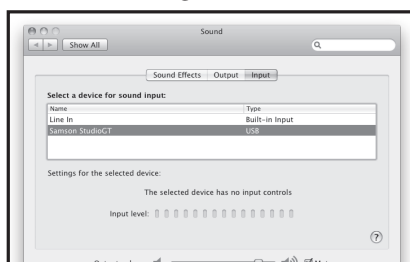

Figure 12
4. Now, click in the Input tab and select Samson StudioGT (Figure 12).